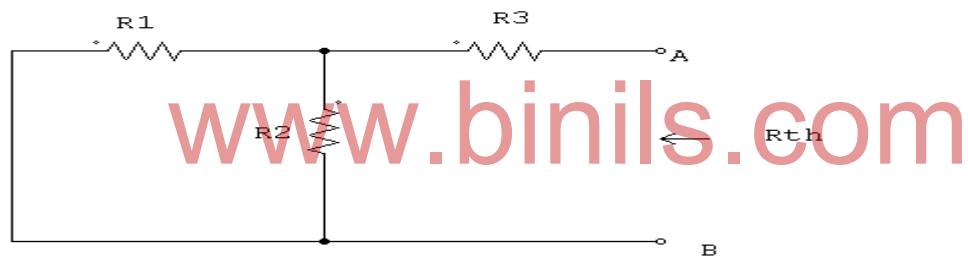

Fig.1.45
**Step 1:** Find Thevenin's equivalent resistance  $R_{th}$  for the given circuit. To find  $R_{th}$  open the load resistance and replace the voltage source by its internal resistance (or) replace by short if its internal resistance is zero. Circuit is redrawn as in Fig.1.45 to find  $R_{th}$ .